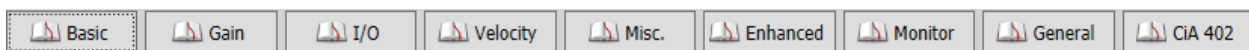

Figure 3-9.1
- (1) Once communication is established, select one item to edit from the table in Figure 3-9.1. (e.g. Figure 3-9.2 shows the basic settings of the XIP drive.)